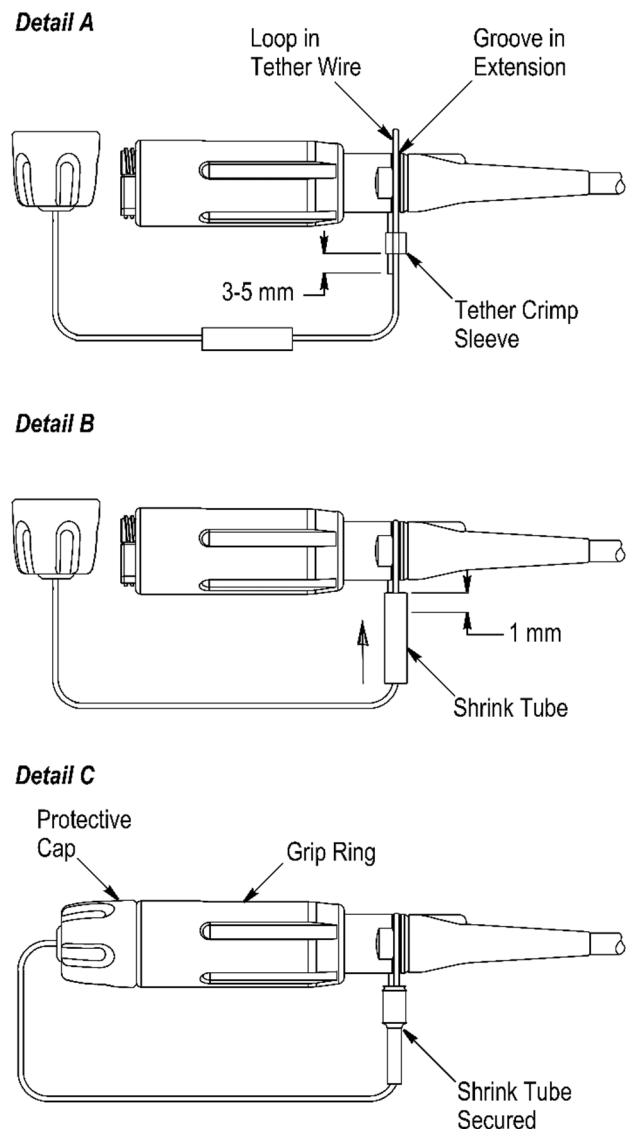

Figure 16
1. Loop the tether wire around the groove in the extension, and feed the end of the tether wire into the open end of the tether crimp sleeve. Pull approximately 3 to 5 mm of the tether wire through the tether crimp sleeve. See Figure 16, Detail A.
3. Slide the shrink tube over the tether crimp sleeve until it extends past the top of the crimp sleeve by about 1 mm. See Figure 16, Detail B.
4. Using the heat gun, and starting at the top of the shrink tube, apply heat to the shrink tube until it shrinks evenly and is secure. Thread the protective cap onto the grip ring. Finger-tighten the cap. See Figure 16, Detail C.
5. Thread the protective cap onto the grip ring, then finger-tighten the cap as shown in Figure 16, Detail C.